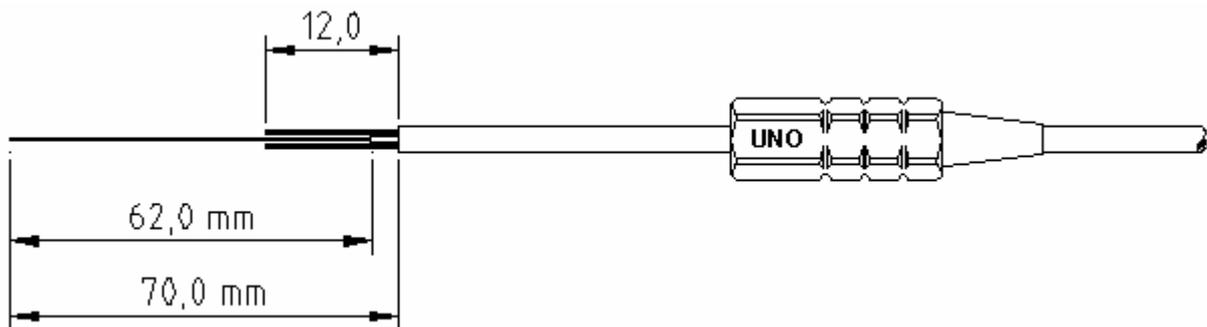

Figure 1: Preparation of the fiber
- 1) Slide the boot at least 100mm (4") onto the cable as shown in Figure 1.